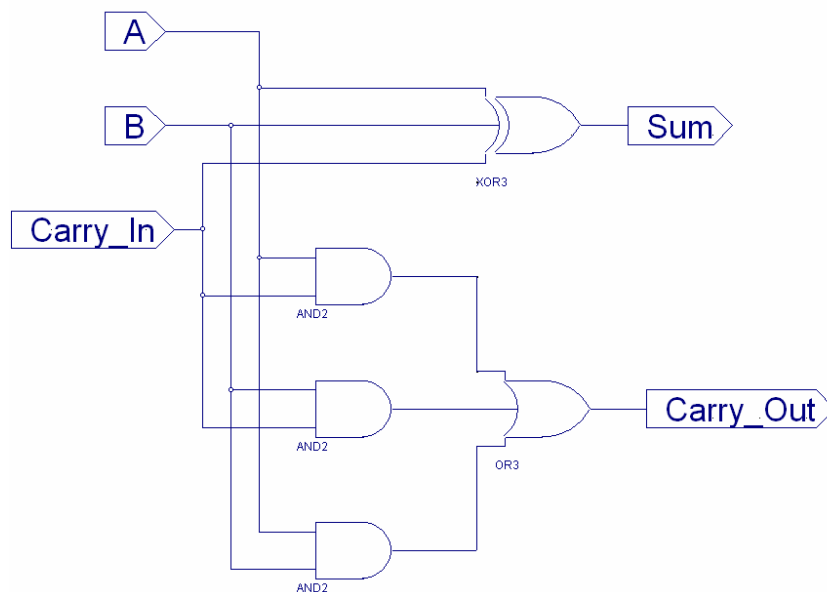

Figure 3: Logic Diagram of a Half Adder
17. Using the Boolean equations for a Full Adder, and *assign* statements, generate the output Sum and Carry signals for the FullAdd module (for help, refer to Lab Guide, Verilog Chapter, Section 3.2). The logic diagram for a Full Adder is given in Figure 3 for reference. Save and Close the file.